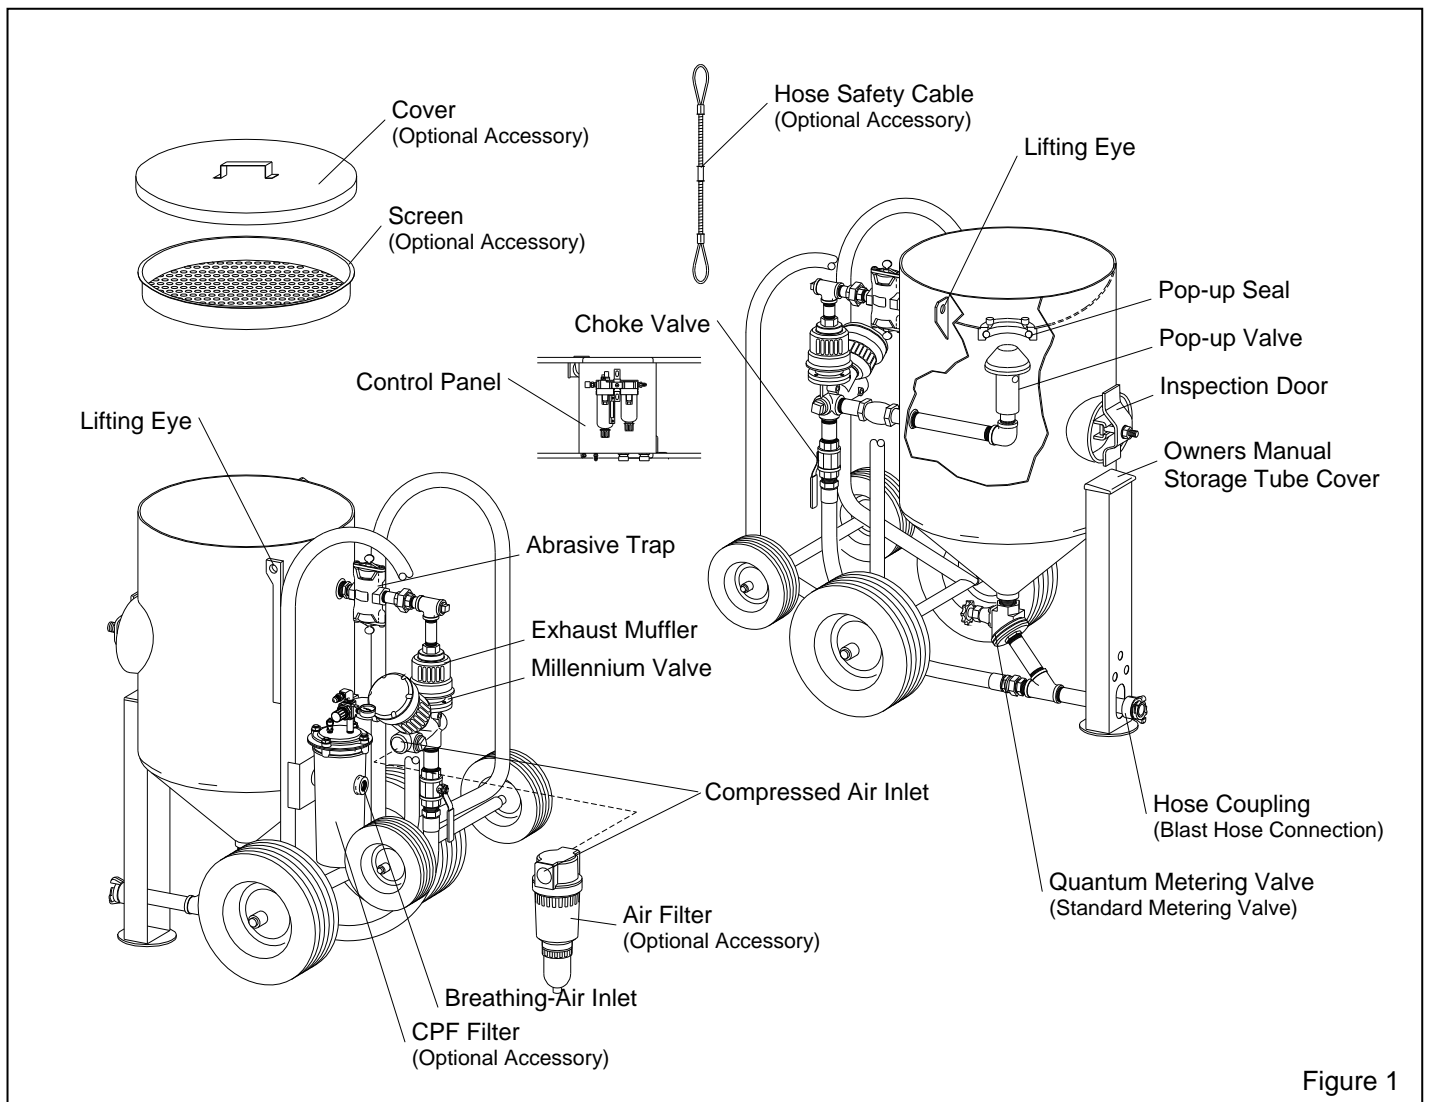

Figure 1
1.3.1.1 The primary components of the Contractor machines are shown in Figure 1. They include the blast machine with Millennium Remote Controls, electric control panel, Quantum Abrasive Metering Valve, frame assembly, optional air filter, and optional CPF air filter.
2.4.2 Connect an air supply hose fitting that is compatible with the air supply hose from an air source that meets OSHA requirements for respirable air, to the CPF Filter inlet, as shown in Figure 1. Pressure supplied to the filter must not exceed 150 psi.